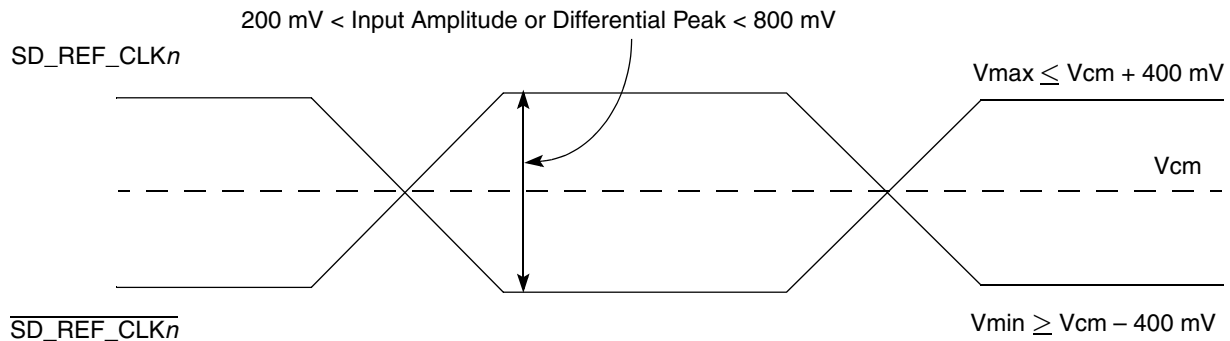

Figure 37. Differential Reference Clock Input DC Requirements (External AC-Coupled)
- For an external AC-coupled connection, there is no common mode voltage requirement for the clock driver. Because the external AC-coupling capacitor blocks the DC level, the clock driver and the SerDes reference clock receiver operate in different common mode voltages. The SerDes reference clock receiver in this connection scheme has its common mode voltage set to SGND. Each signal wire of the differential inputs is allowed to swing below and above the common mode voltage (SGND). Figure 37 shows the SerDes reference clock input requirement for AC-coupled connection scheme.